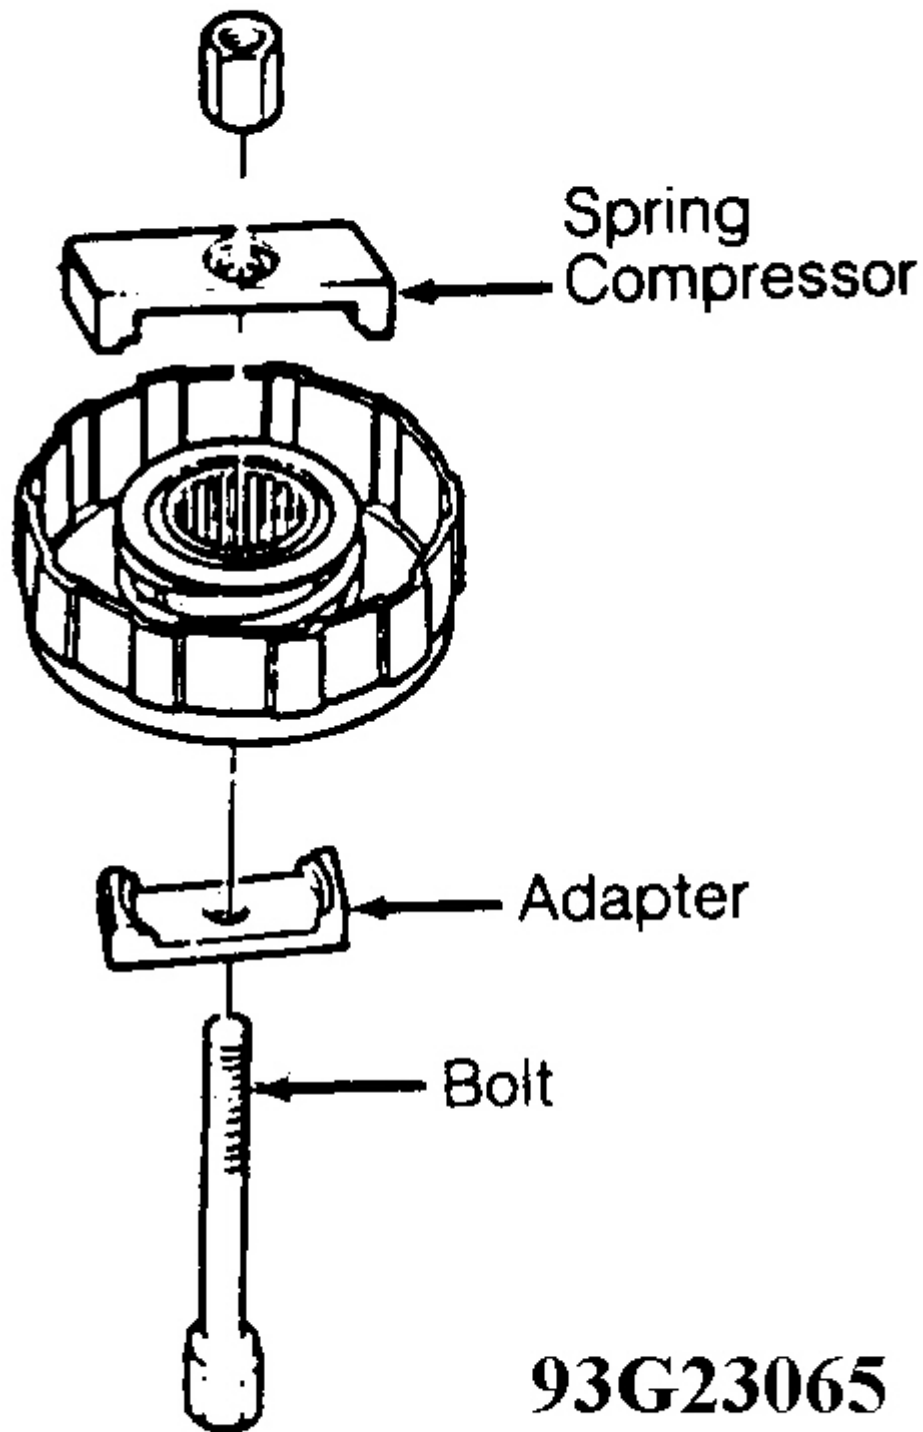

Fig. 28: Return Spring (1st-Hold Clutch Shown; Others Similar)
2. On all clutches, use Spring Compressor (07HAE-PL50100), Adapter (07960-6120100) and Bolt (07GAE-PG40200) to compress return spring. See **Fig. 28** .